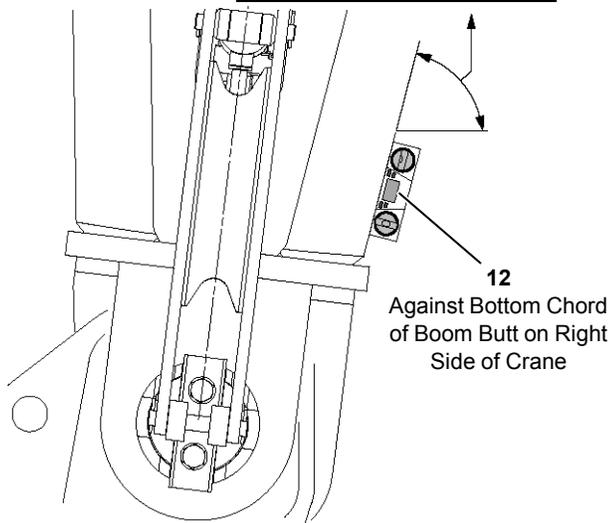

FIGURE 4-3
12	Digital Level (see Figure 4-3)
- a. Place an accurate digital level (12) on the boom butt as shown in Figure 4-3. The corresponding Digital Level Angle should appear on the digital level.